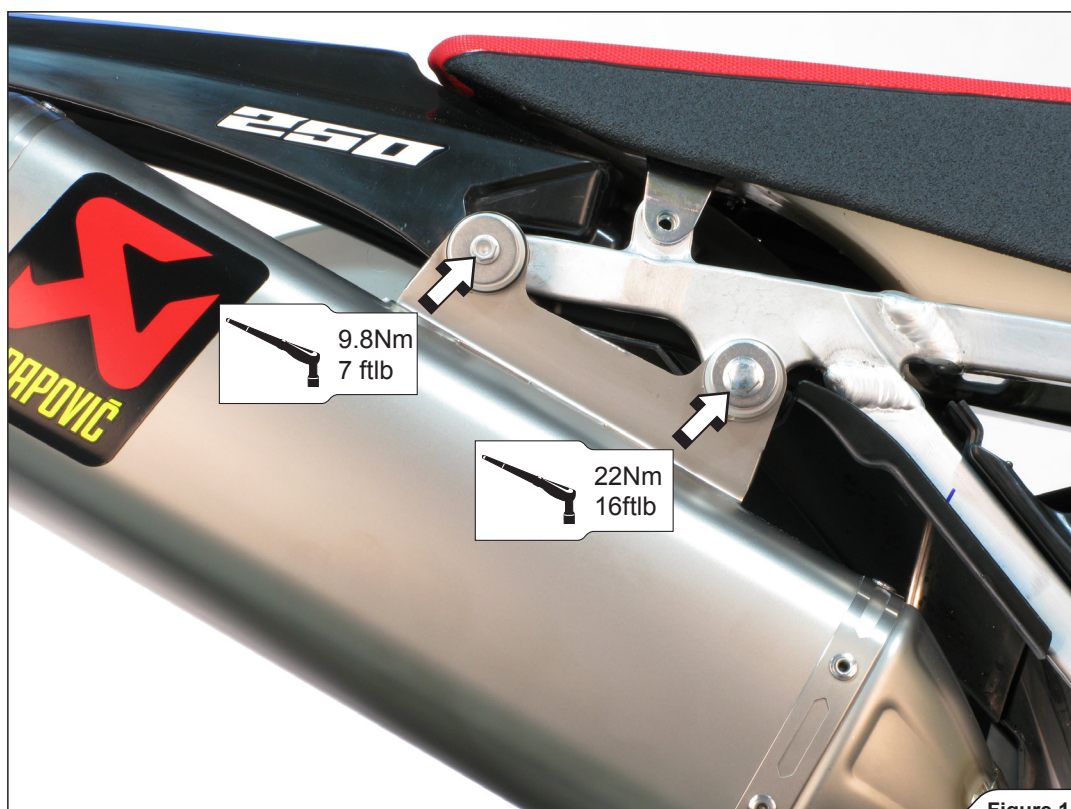

Figure 14
8. Align the muffler in respect to the motorcycle and tighten the muffler's bracket bolts, link pipe's bracket bolt and clamp to the specified torques (Figure 14, 15).